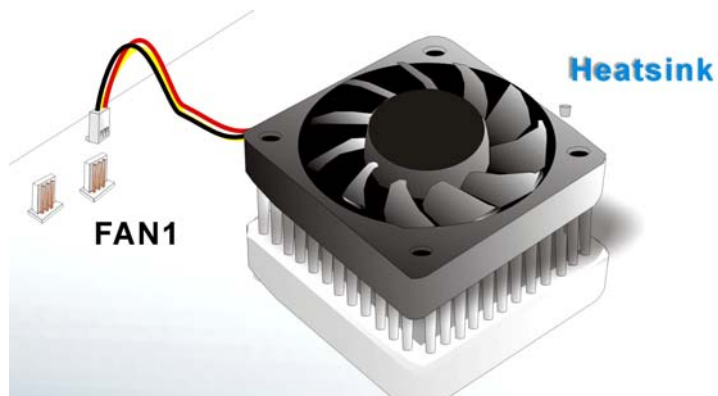

Figure 5-5: Connect the cooling fan cable
Step 5: Connect the fan cable. Connect the cooling kit fan cable to the fan connector on the motherboard. Carefully route the cable and avoid heat generating chips and fan blades. See **Figure 5-5**.